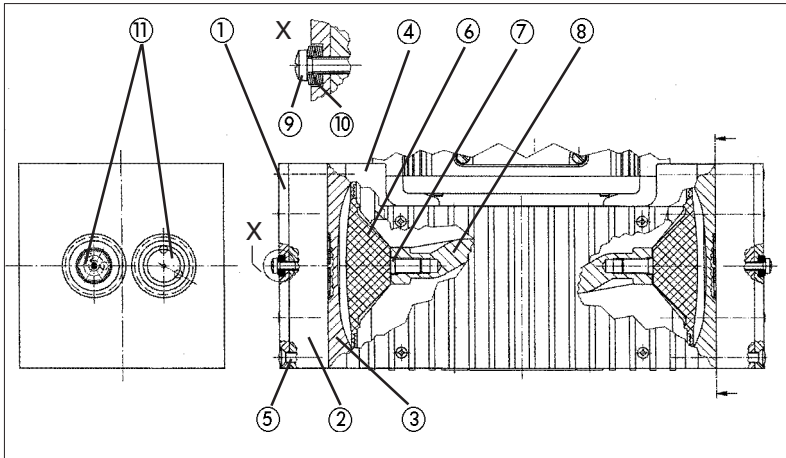

Fig. 7: Cross section of pump heads for pump N 860.3 FT.40.18 (symbolic)
▶ The position numbers in the following text refer to fig. 7.
first three disc springs must point away from the screw head, the next three towards it (see fig. 7, detail X).